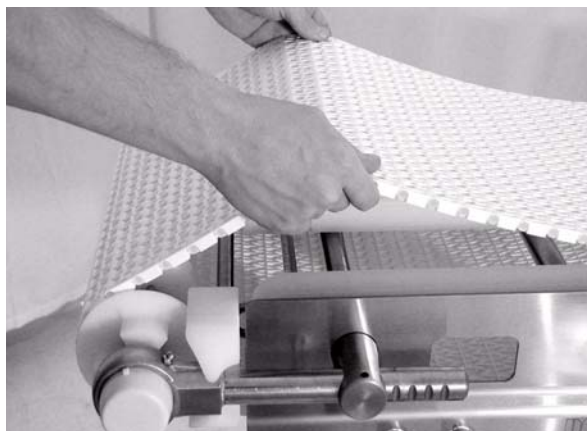

Figure 43
3. Lift up on the belt (**Figure 43**).